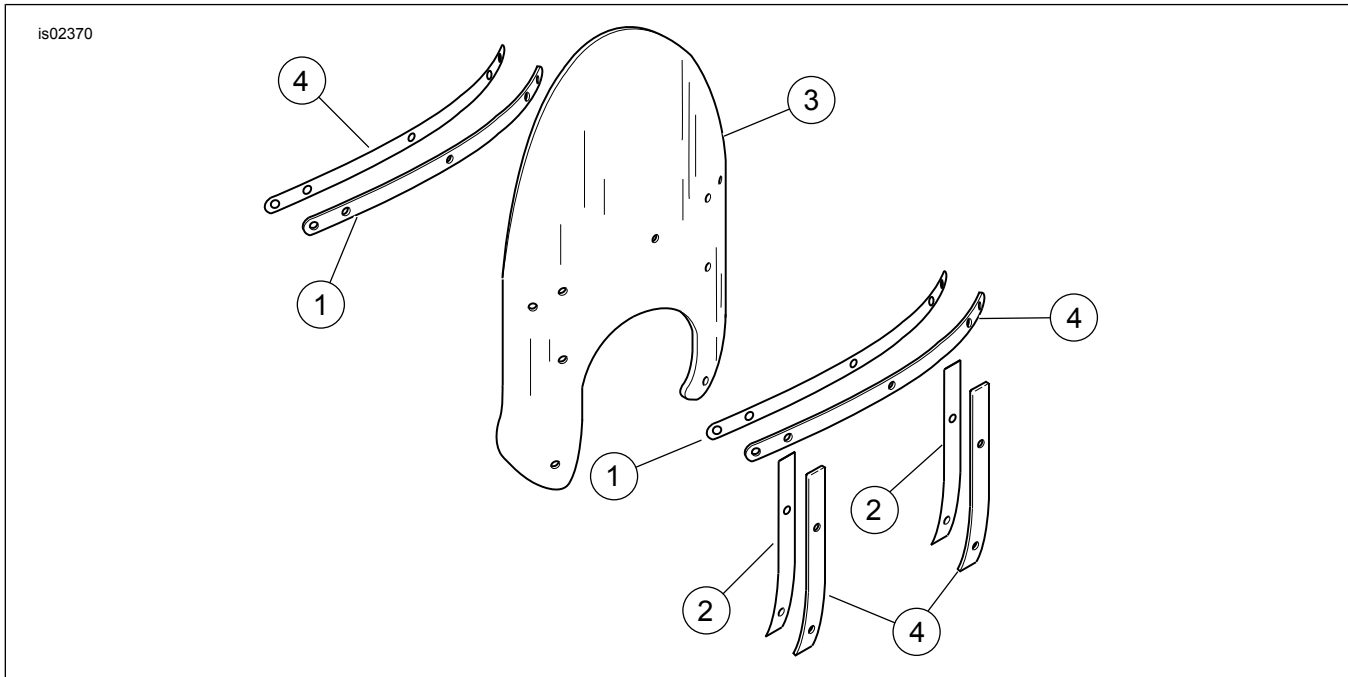

Figure 1. Service Parts: Windshield Kits
See Figure 1 and Table 5.
- See Figure 1. Remove stock windshield.